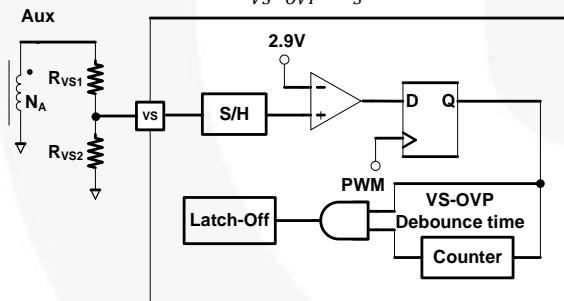

Figure 47. VS-OVP Protection Circuit
VS over-voltage protection prevents damage caused by output over-voltage condition. It is operated in Latch-Off mode. Figure 47 shows the internal circuit of VS-OVP protection. When abnormal system conditions occur, which cause VS sampling voltage to exceed V_{VS-OVP} (2.9 V) for more than 2 consecutive switching cycles (N_{VS-OVP}), PWM pulses are disabled and FAN602L enters Latch-Off protection. VS over-voltage conditions are usually caused by open circuit of the secondary side feedback network or a fault condition in the VS pin voltage divider design. For VS pin voltage divider design, R_{VS1} is obtained from Equation (10), and R_{VS2} is determined by the desired VS-OVP protection function as: